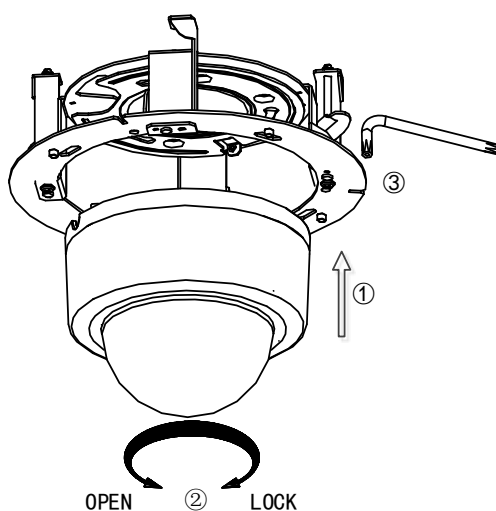

Figure 2-28 Fix the Camera
4. Fix the screws on the side with Allen wrench, as shown in Figure 2-28.